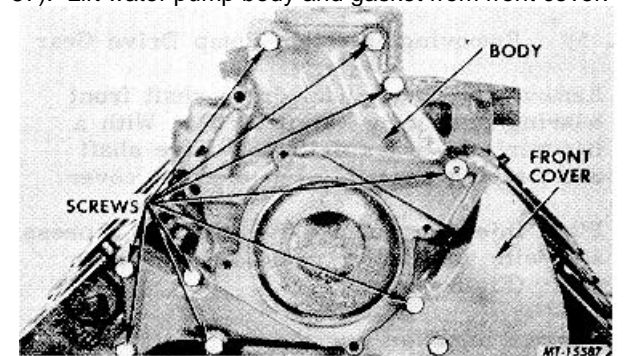

Fig. 57 Water Pump Body Mounting Details
50. Remove water pump body mounting screws (Fig. 57). Lift water pump body and gasket from front cover.